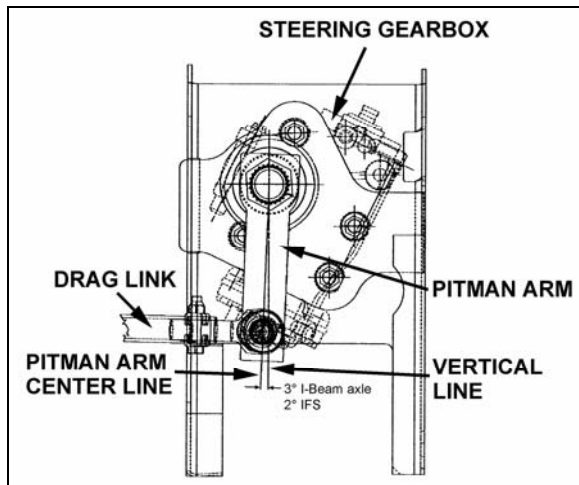

FIGURE 15: PITMAN ARM ADJUSTMENT 14052
2. Using a protractor, check the angle of the pitman arm (refer to Fig. 15 for details).